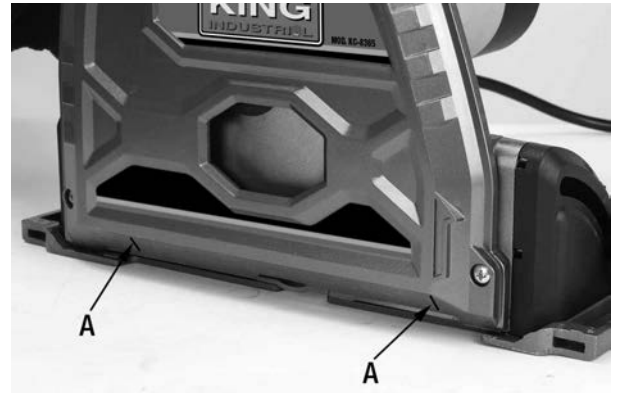

FIGURE 18
- 4) This saw has markers (A) Fig.18 on the base which show exactly where the front and back of the blade will cut when plunged downwards. Position the saw where you would like on your workpiece to make your cut.